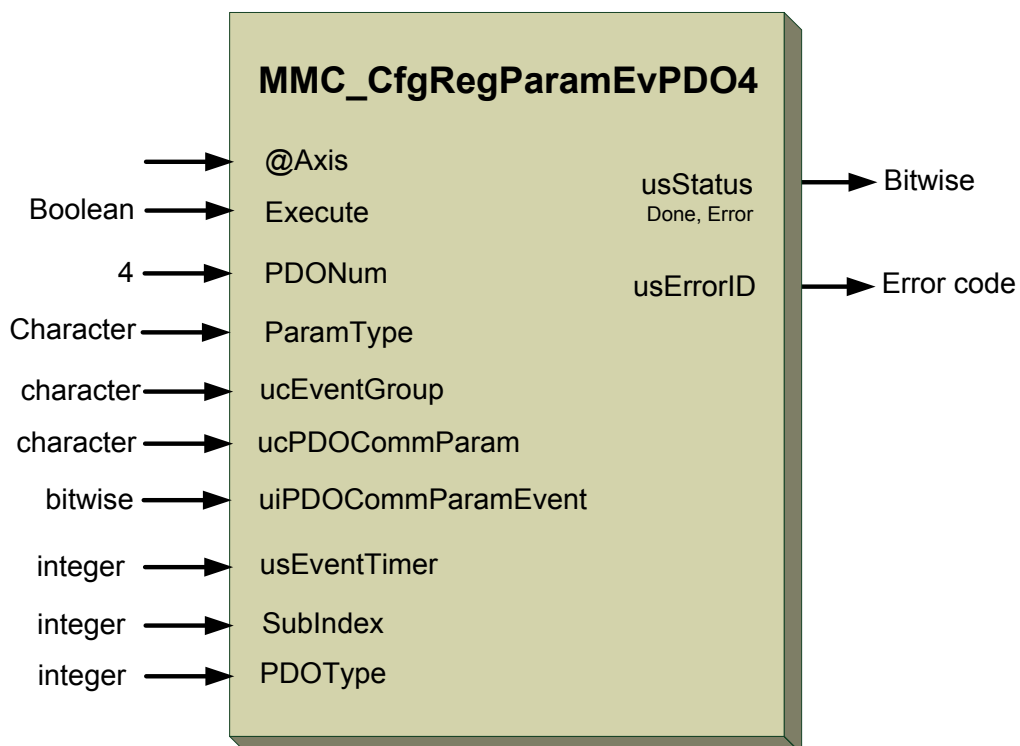

Figure 16-28: MMC\_CfgRegParamEvPDO4 function block
**Figure 16-28** describes the function block for MMC\_CfgRegParamEvPDO4 as applied within the IEC 61131 programming. The IEC function block serves CfgUserParamEvPDO3, CfgUserParamEvPDO4, CfgRegParamEvPDO3, and CfgRegParamEvPDO4 together.